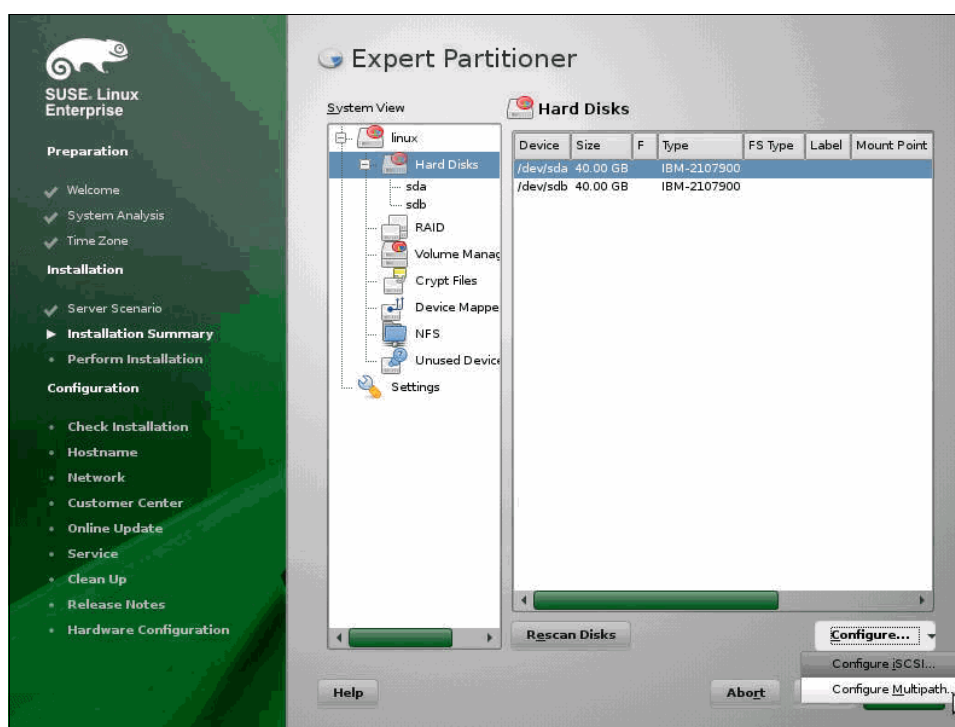

Figure 3-59 Configuring multipath
15. Click the **Hard Disks**, then click **Configure** and **Configure Multipath**, as shown in Figure 3-59. Afterwards, click **Yes** to Activate multipath.